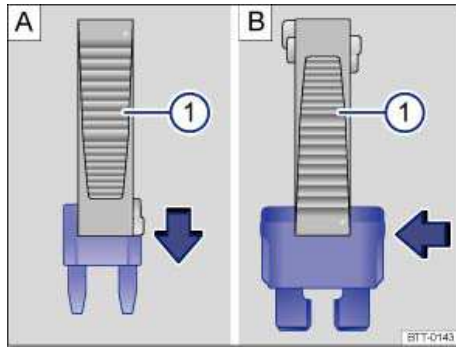

Fig. 348 Removing or inserting a fuse.
- If needed, remove the plastic tweezers ⇒ fig. 348 from the fuse box cover.
- For *small fuses*, slide the tweezers onto the fuse from the top ⇒ fig. 348 A.
- For *larger fuses*, slide the tweezers onto the fuse from the side ⇒ fig. 348 B.